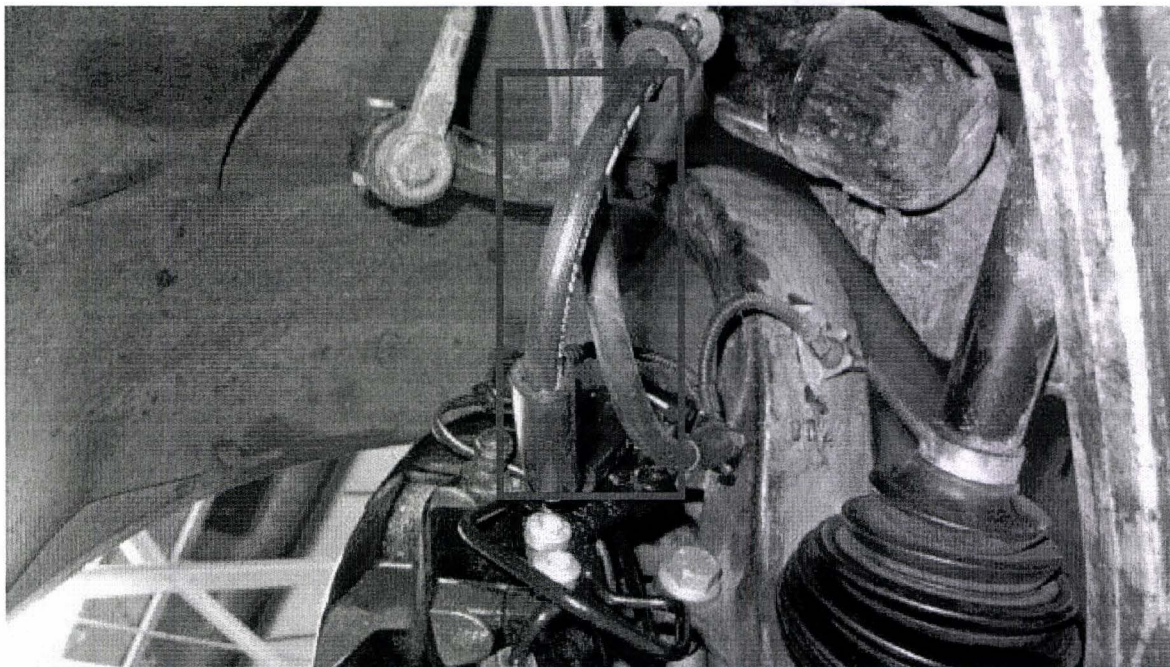

Figure 11
7. With the steering pointing straight ahead the position of the flexible brake hose in relation to the road wheel speed sensor loom should be as shown in Figure 11